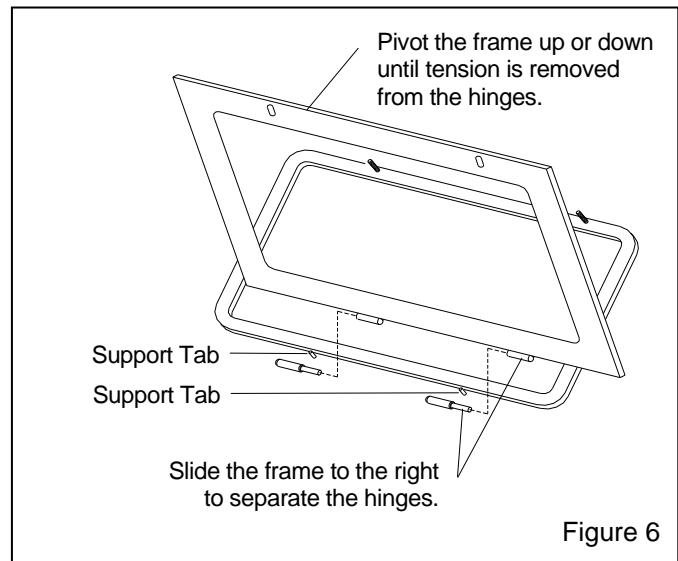

Figure 6
## 7.5 Window Frame Removal, Figure 6
**7.5.4** Slide the frame to the right, to remove. The hinges separate as shown in Figure 6.